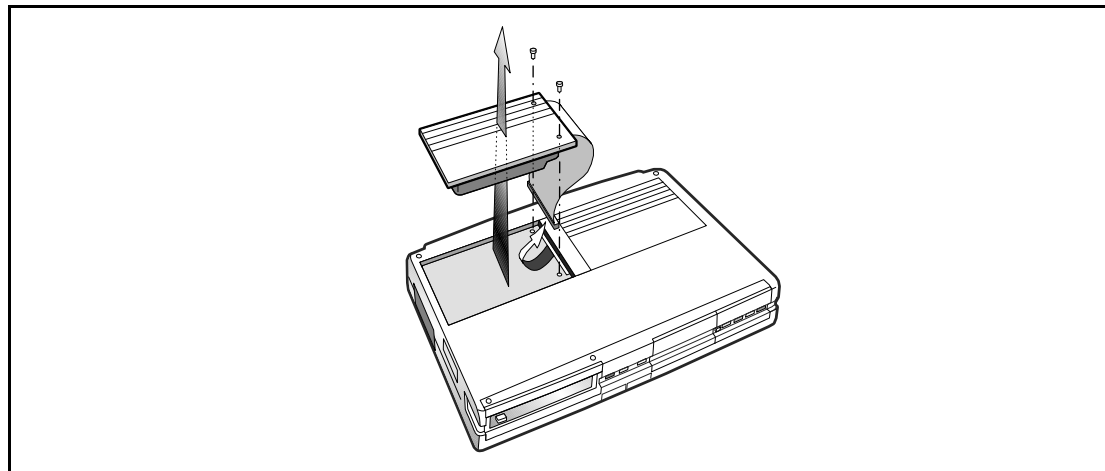

Figure 5-7 Hard Drive Assembly, Removal/Replacement
3. Turn the computer over and remove the two Phillips head screws located along the edge of the panel (see Figure 5-7).